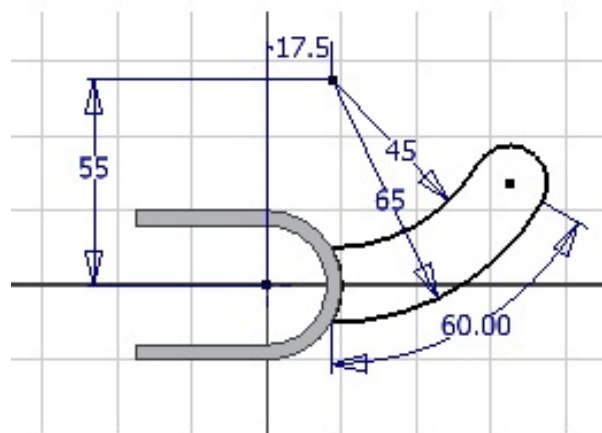

Figure 7-48 Sketch of the first join feature
1. Draw the sketch of the curved feature on the XZ plane. Add the required constraints and dimensions to it. The sketch of the first join feature after applying all dimensions and constraints is shown in Figure 7-48.